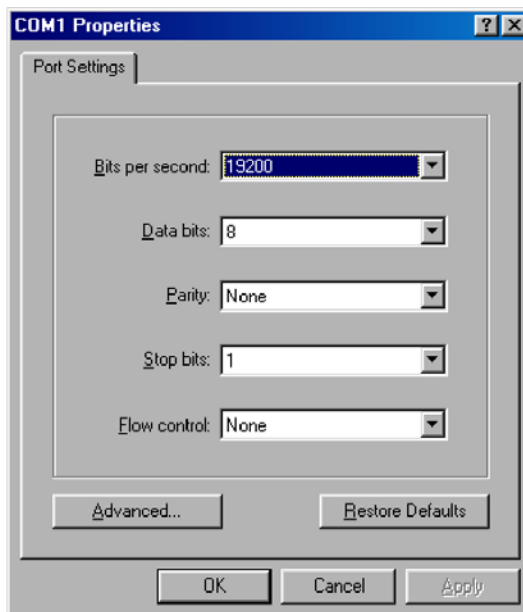

Figure 41. COM properties
- Configure the COM port settings as shown in figure 41.